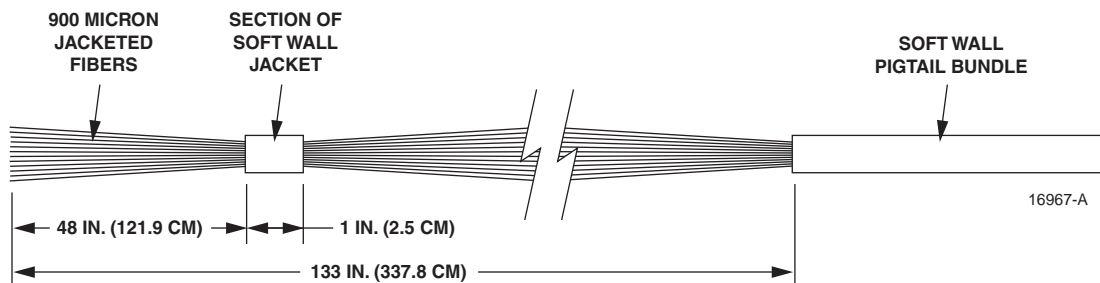
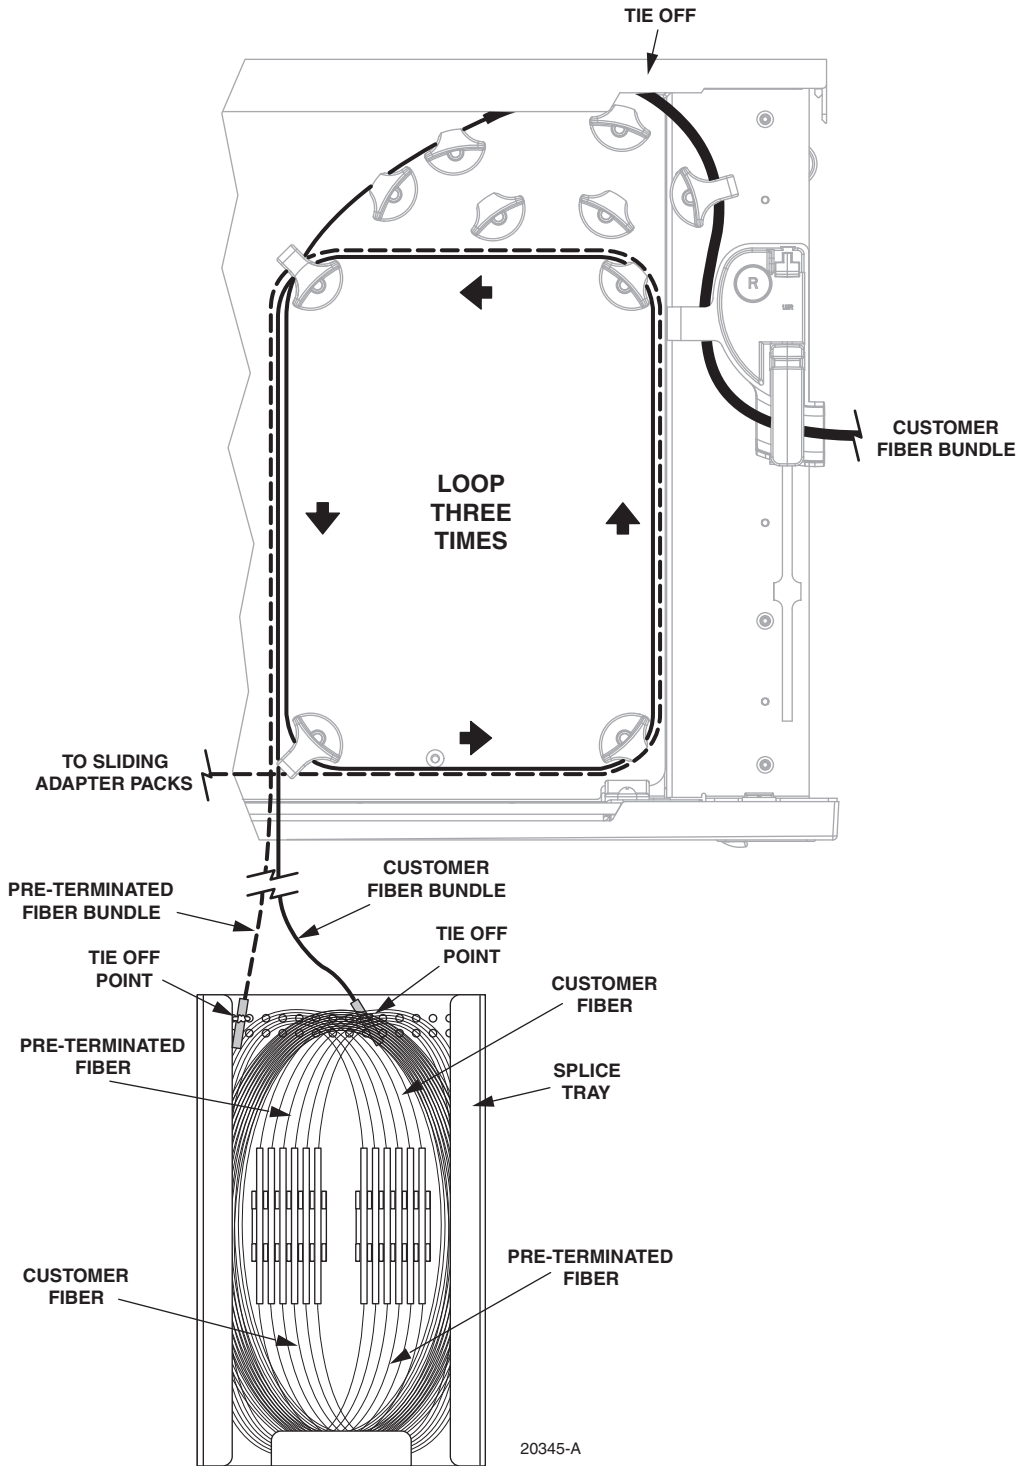

Figure 11. 12-Position Termination and Splice Tray Breakout Dimensions
Figure 13. Cable Routing for 12-Position Termination and Splice Tray, Step 3
1. Break out the cable corresponding to the dimensions provided in Figure 11.
3. Loop the cables three times around the radius limiters as shown in Figure 13.
► **Note:** Tie off the cable at the tie off point shown in Figure 13, using a one-inch section of soft wall jacket per the breakout dimensions shown in Figure 11.